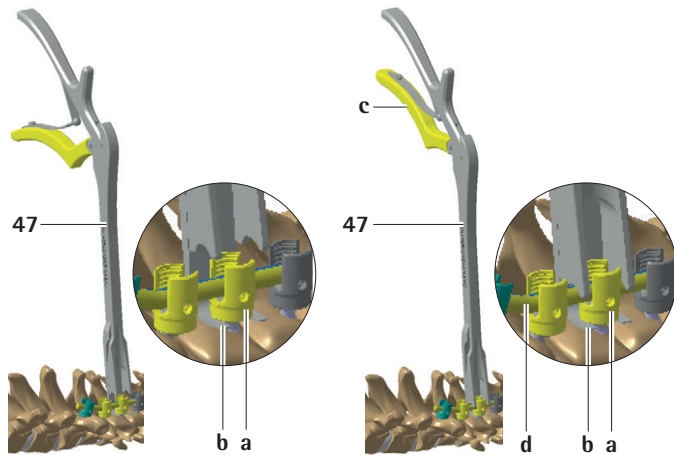

Fig. 36
- ▶ Place the rod persuader **47** over the polyaxial screw head, see Fig. 36.
- Make sure to engage the tip **b** of the persuader under the screw head **a**, as shown on the left side of the image, see Fig. 36.